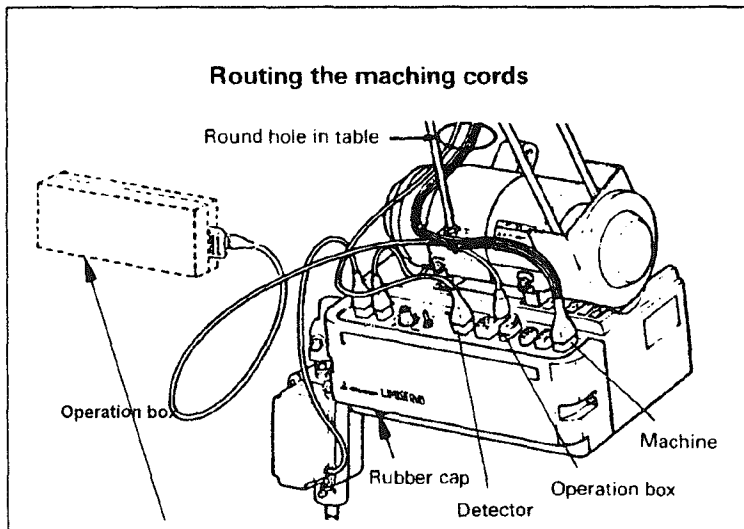

Fig.3
To change motor rotation direction, remove the rubber cap (see Fig. 3) at the bottom left of the motor front cover and push the internal direction selector switch.
6、 Connection of control box (Fig.3):
The control box should be connected as shown Fig.3.